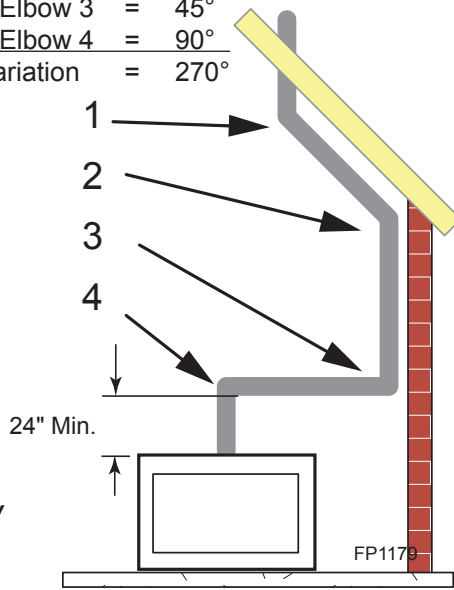

Figure 22 - Maximum Elbow Usage
- Two sets of 45°elbows offsets may be used within the vertical sections. From 0 to a maximum of 8' (2.5 m) of vent pipe can be used between elbows. *Figure 22*
- The maximum angular variation allowed in the system is 270°. *Figure 22*
NOTE: Pay special attention to these installation instructions for required clearances (air space) to combustibles when passing through ceilings, walls, roofs, enclosures, attic rafters, etc. Do not pack air spaces with insulation. Also note maximum vertical rise of the venting system and any maximum horizontal offset limitations. Offsets must fall within the parameters shown in Figures 22 and 23.